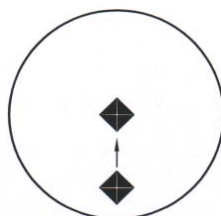

Figure 6-13 Image is beneath the center
2. The image is beneath the center. Refer to Figure 6-13.